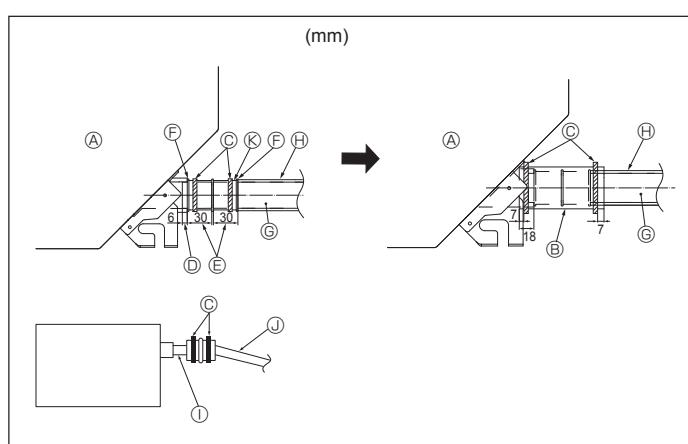

Fig. 5-2
- Connect the drain socket (supplied with the unit) to the drain port. (Fig. 5-2) (Fix the tube using PVC adhesive then secure it with a band.)